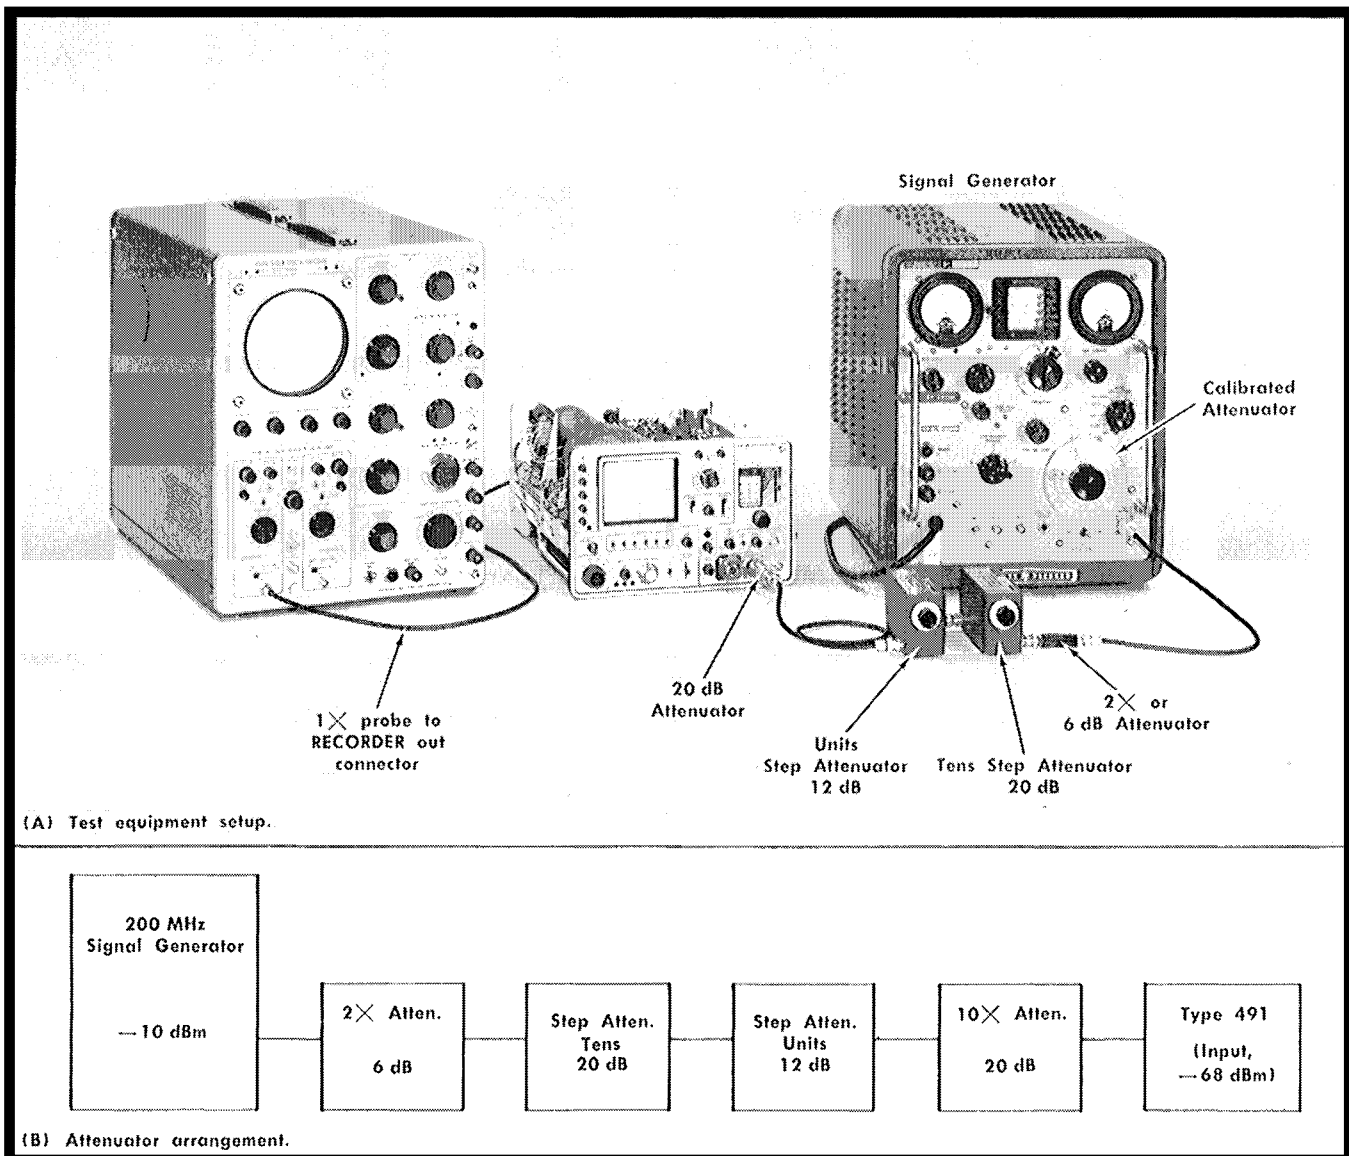

Fig. 6-35. Test equipment setup to check dynamic range, IF GAIN control range, IF ATTENUATOR dB accuracy RECORDER signal out amplitude and incidental FM.
- Equipment setup is shown in Fig. 6-35.